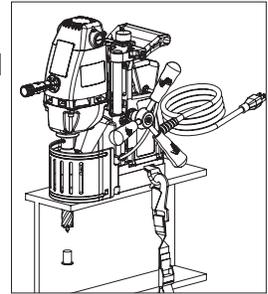

Figure 10
1. After the Slugger® cutter has finished the cut, the "slug", or uncut center portion of material, will be expelled when motor is returned to the full up position. **(Figure 10)**